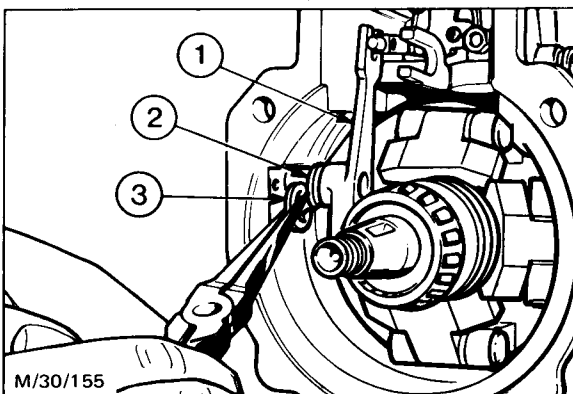

Fig. 35 - Rocking Lever Removal (Naturally Aspirated)
39. Naturally aspirated pumps: Withdraw the pivot shaft slightly for access to the retaining 'E' clip. Remove the 'E' clip and withdraw the pivot shaft, while holding the one piece rocking lever. Lift out the rocking lever and recover the thrust washer from the governor housing (Fig. 35).